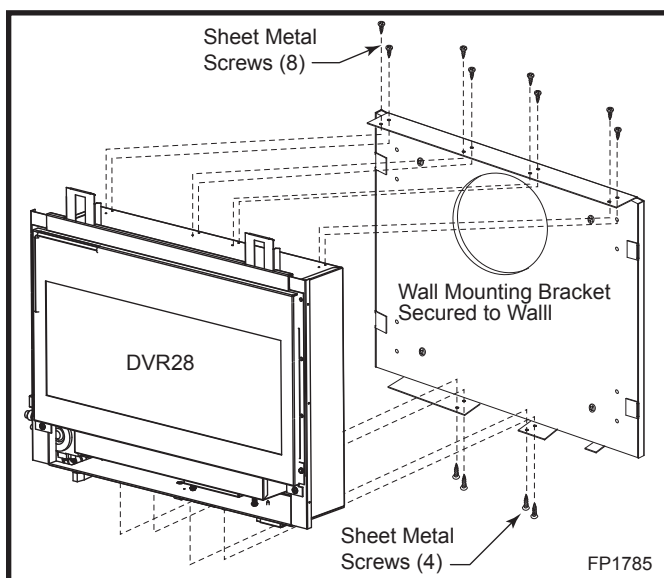

Fig. 6 Secure fireplace to wall mounting bracket.
4. Align the top and bottom mounting holes of the fireplace with the top and bottom holes of the mounting bracket. Secure fireplace to mounting bracket using sheet metal screws supplied. (Fig. 6)